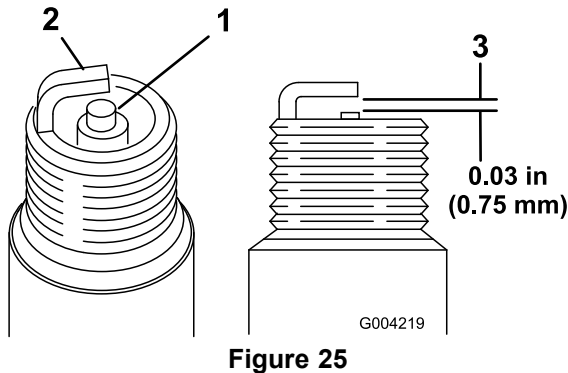

Figure 25
1. Look at the center of both spark plugs (Figure 25). If you see light brown or gray on the insulator, the engine is operating properly. A black coating on the insulator usually means the air cleaner is dirty.
2. Check the gap between the center and side electrodes (Figure 25).
3. Bend the side electrode (Figure 25) if the gap is not correct.